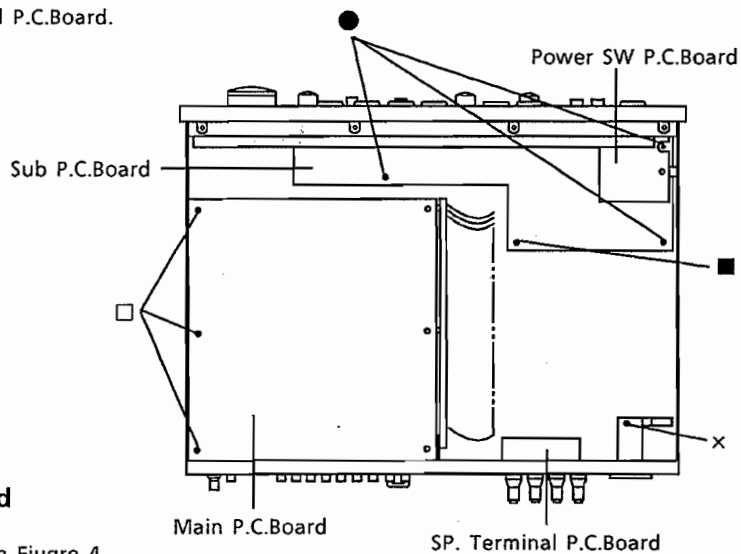
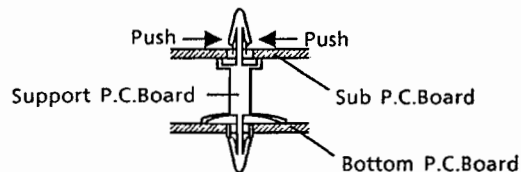

Figure 4
Figure 5
- (1) After removal of Front Panel, remove one Support P.C.Board marked "■" from Sub P.C.Board as shown in Figure 4, by pushing the point "A" as shown in Figure 5.
- (2) Remove three screws marked "●" as shown in Figure 4.
- (3) Disconnect all wires from the Sub P.C.Board.
- (1) Remove one screw marked "x" as shown Figure 4.